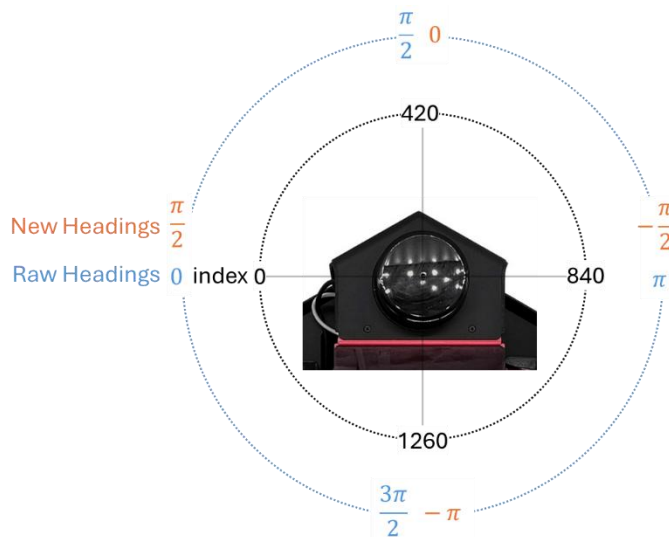

Figure 2. LiDAR measurement correction
3. Notice in **adjust_and_subsample()** under **QBPRanging()**, heading angles from the LiDAR sensor are multiplied by -1 and added to $\pi/2$. This is to correct the headings such that the angle value of 0 corresponds to the front of the QBot, as shown in Figure 2. In addition, the angles are now increasing counterclockwise, consistent with the positive convention of our reference frame. Furthermore, this function returns every 4th element in the distance and angle data, effectively downsampling these signals fourfold. Downsampling is beneficial in the obstacle detection application as it allows for faster computation when high resolution is not necessary.